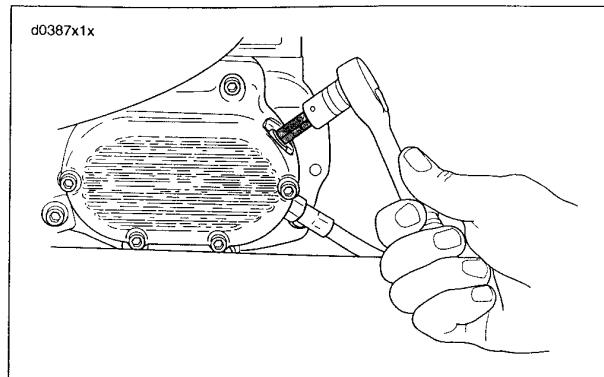

Figure 1-32. Transmission Lubricant Check/Fill
- 1. See Figure 1-32. Remove transmission filler plug.